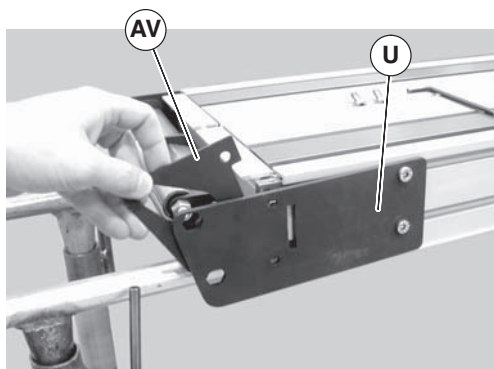

Figure 57
3. Remove the inner spacer (Figure 57, item AV).